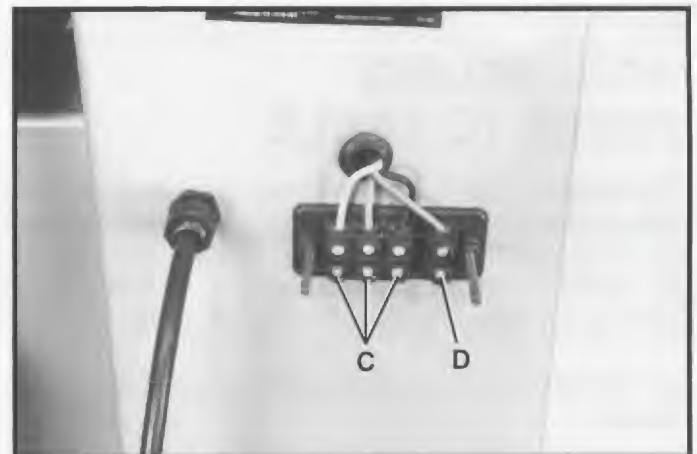

Fig. 6B
2. Connect the incoming three phase power lines to terminals (C) Fig. 6B, and green ground wire to ground screw (D).
**IMPORTANT:** The rotation of the saw blade must be in a clockwise direction when viewed from the front of the machine and the teeth of the blade must be pointed downward toward the table. If the rotation of the blade is incorrect, **DISCONNECT THE MACHINE FROM THE POWER SOURCE** and interchange any two of the three incoming power lines connected to terminal (C) Fig. 6B.